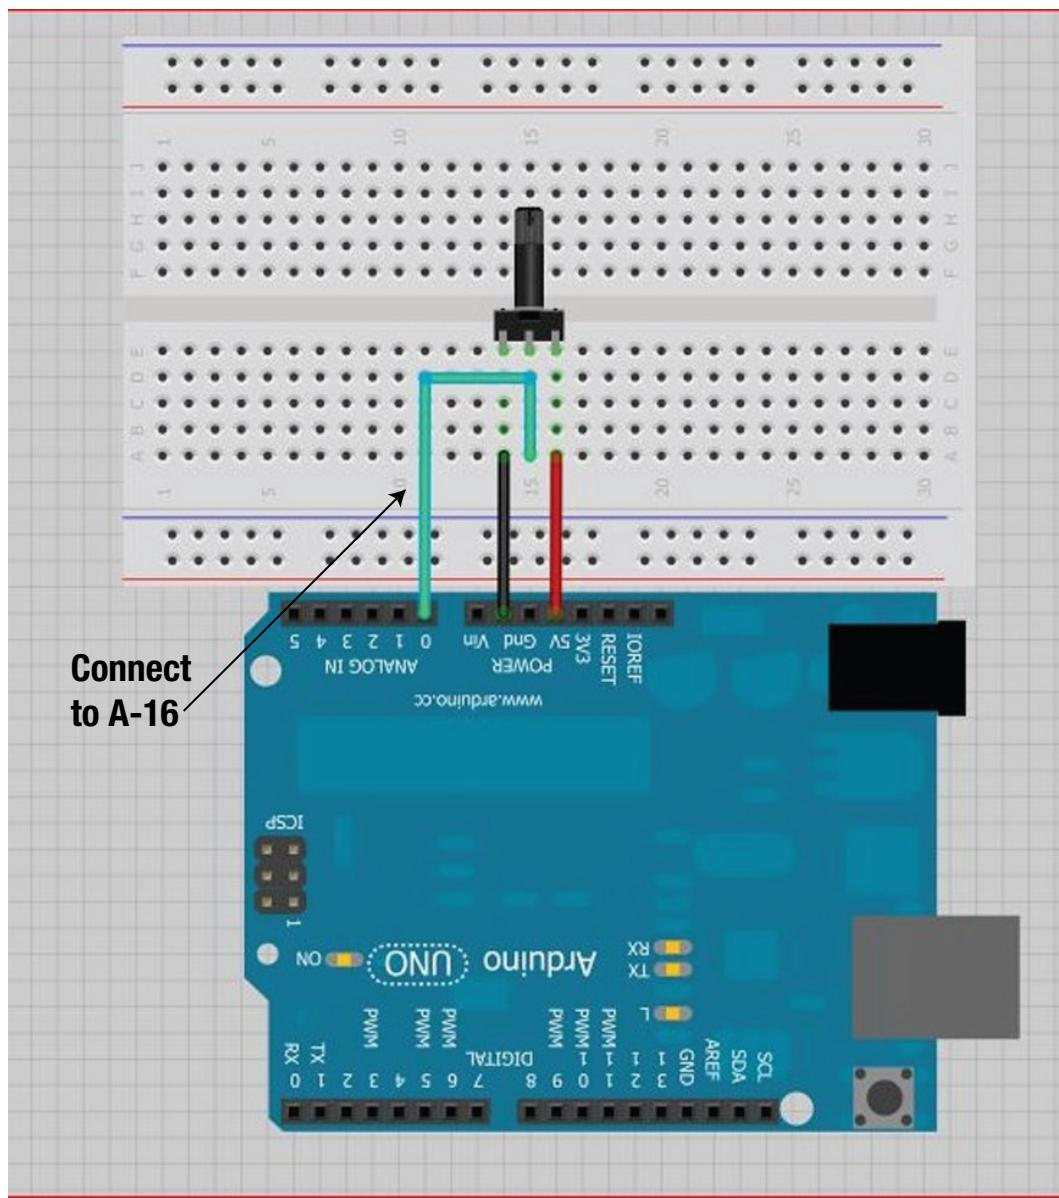

Figure 3-8. Connect the middle terminal of the potentiometer to the Arduino’s Analog Input 0 (A0)
3. Next you'll use another jumper wire (at position A-16) to connect the middle pin of the potentiometer to the header on the Arduino labeled A0 (Analog Input 0). Figure 3-8 shows a close-up of the new (green) wire inserted between the GND and 5V wires that connect to the potentiometer.